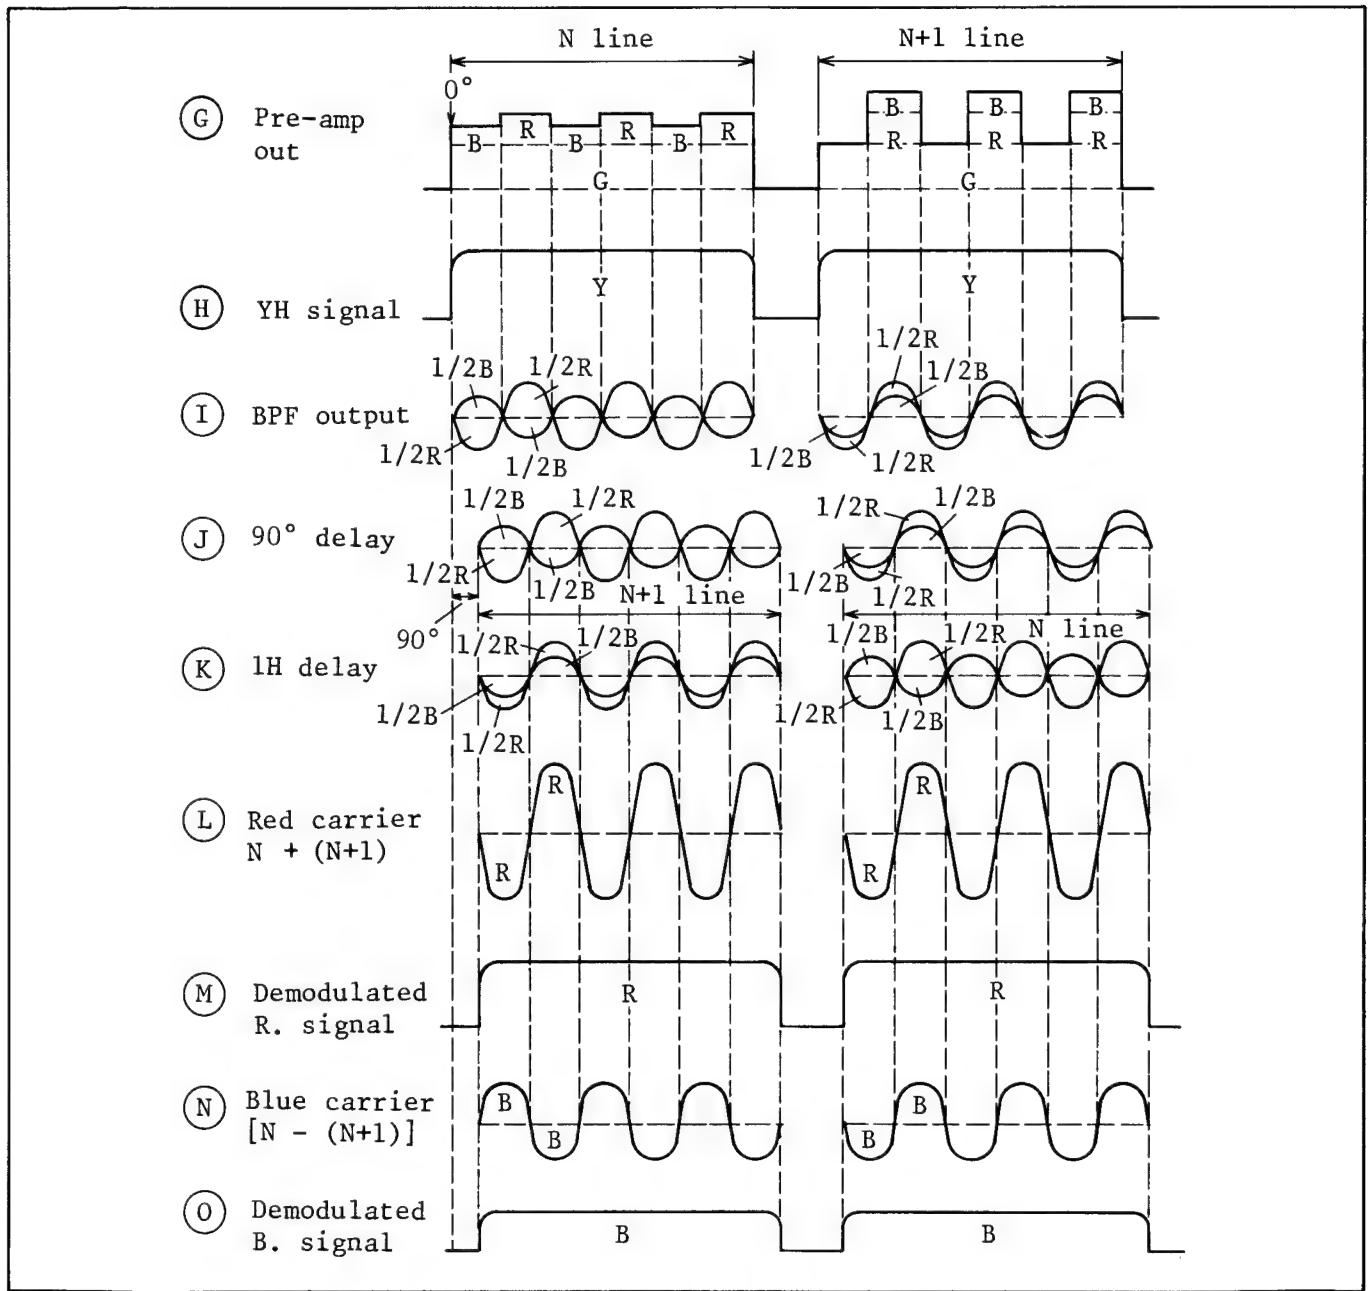

Fig. 13. Detection of Y, R and B. signals
The incoming light is thus converted by the integrated stripe filter into a signal which contains R and B signals modulated by 3.58MHz. This signal is sent to the pre-amplifier, where it is amplified (Fig. 13-(G)). The amplified signal G from the pre-amplifier is sent to a low pass filter circuit, which passes only the luminance (YH) signal (Fig. 13-(H)) making up the G signal. The amplified signal G is also supplied to the band-pass filter (BPF) whose center frequency is 3.58MHz, through which only the modulated signal l passes.